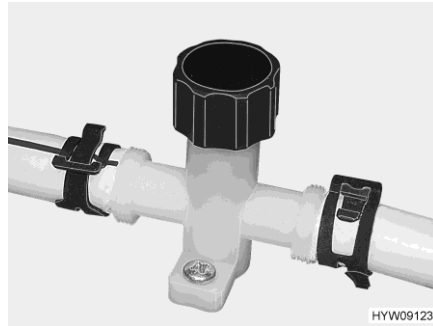
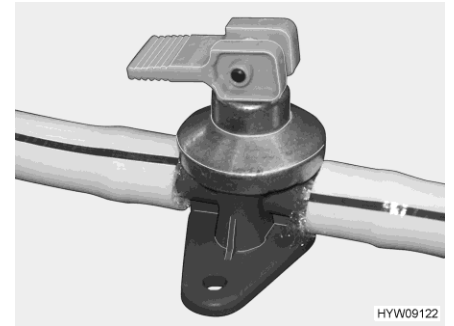

Fig. 172 Drain cock (water pipe)
Fig. 173 Drain cock (Alde boiler)
- Close the drain cocks. To do so, turn the cap (Fig. 172) in a clockwise direction and set the rocking lever (Fig. 173) in a horizontal position.
- Open the drain cocks. To do so, turn the cap (Fig. 172) in an anticlockwise direction and set the rocking lever (Fig. 173) in a vertical position.